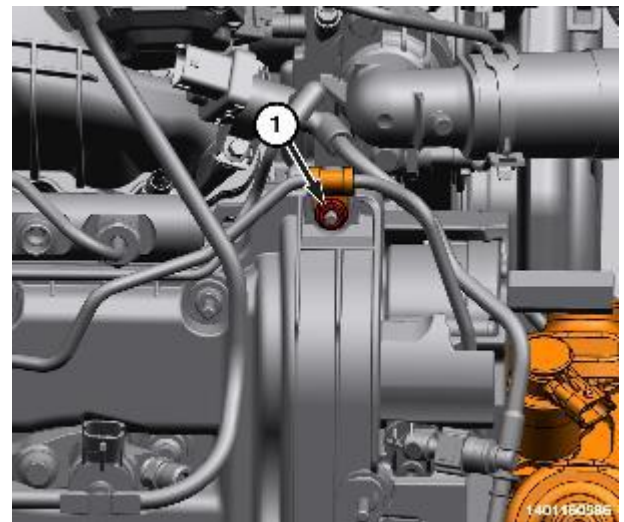

Figure 165 – Pipe Nut
- 31. Remove the nut (1) securing the fuel tube (Figure 165).
50. Install the nut (1) securing the fuel tube and tighten to 11 N·m (8 Ft. Lbs.) (Figure 165).